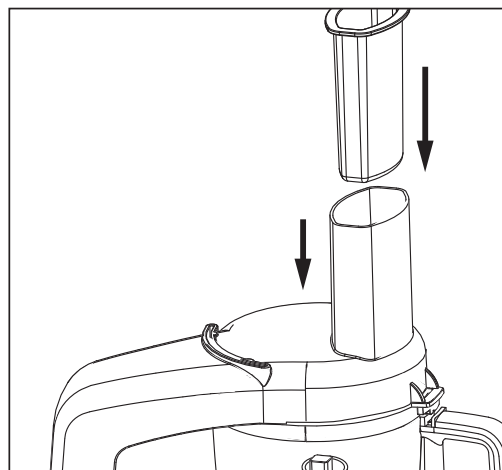

Figure 7
- 6 Turn the knob to the ON position for continuous processing. Push down with a light but steady pressure onto the Food Pusher (Figure 7).